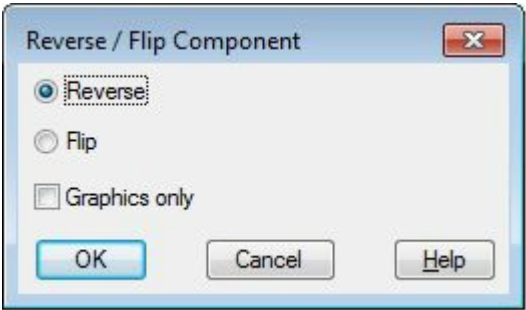

Figure-33. Reverse or Flip Component dialog box
- Click on the **Reverse/Flip Component** tool from the **Transform Components** drop-down. The **Reverse/Flip Component** dialog box will be displayed as shown in Figure-33.